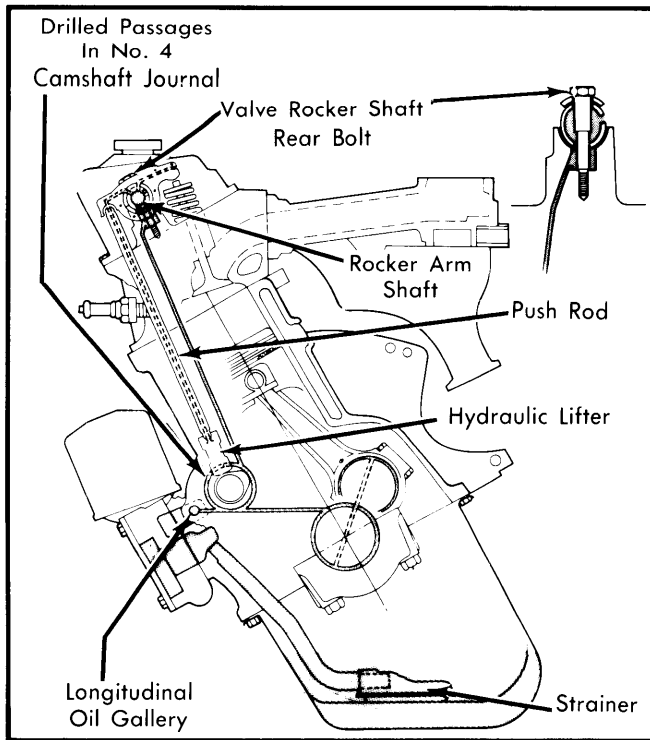

Fig. 15 Engine Oiling System
1) Rotor type oil pump mounted externally on right side of crankcase. Oil pump assembly consists of oil pump, oil filter and oil pressure regulator. Pump draws oil from pan through fixed strainer and intake pipe screwed into crankcase wall at pump mounting pad. See Fig. 15.